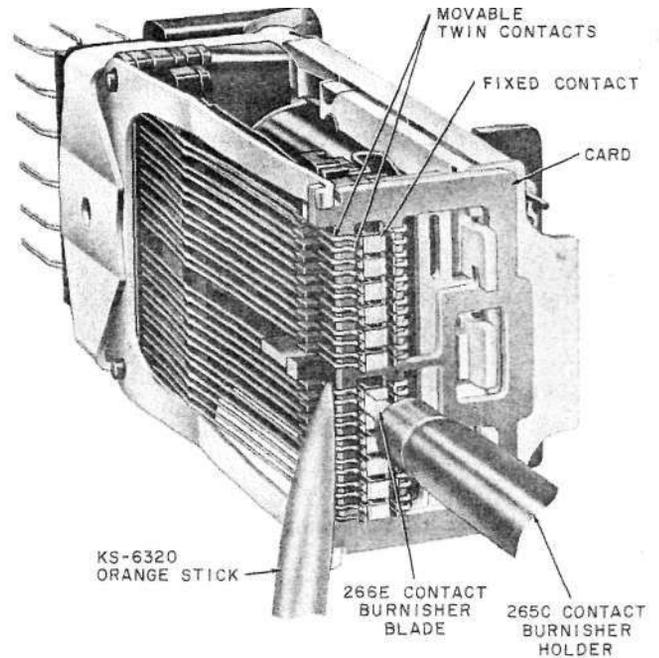

Fig. 13—Method of Burnishing Contacts on Wire-Spring Relays
4.18 *Wire-Spring Type Relays (AF-, AG-, AJ-, AK-, AL-, AM-, 286-, 287-, and 288-Type Relays):* The life expectancy of gold overlay or other precious metal contacts will be severely shortened by indiscriminate burnishing, and, therefore, burnishing precious metal contacts is not recommended and should be done only when all other means prove ineffective. If the contacts cannot be cleaned by the brush wiping, or spray methods insert the 266E blade in the 265C contact burnisher holder with the narrow end outward. In the case of normally open contacts, place the blade between the contacts so that both of the twin contacts will rest on one surface of the blade when the relay is operated or the contacts are pressed together. Insert the blade only to the inner edge of the contacts to ensure that the blade will clear the card at all times. Manually operate the relay or press the contacts together with the flat portion of the KS-6320 orange stick applied to the twin springs at the point where they rest on the card as shown in Fig. 13. Then move the burnisher back and forth to burnish the contacts. To burnish normally closed contacts, manually operate the relay, insert the blade between the contacts, release the relay, and burnish the contacts as described above.